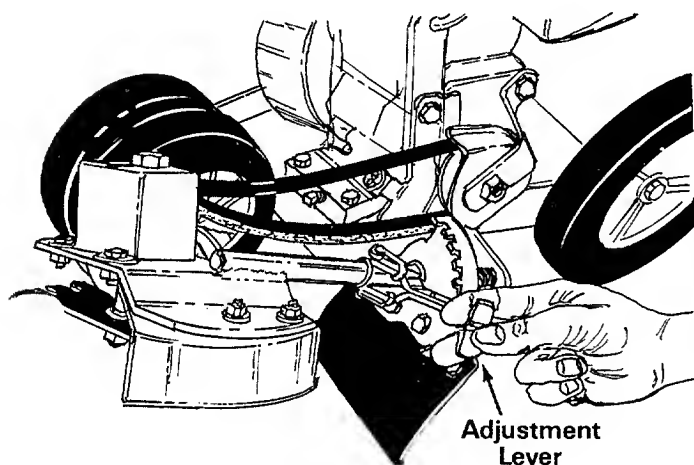
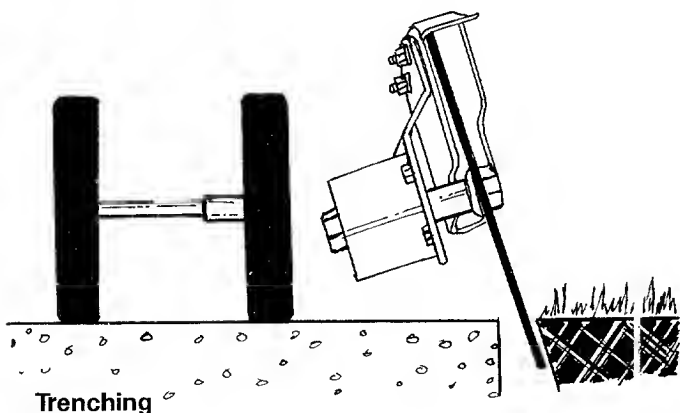

FIGURE 13
FIGURE 17
The cutting blade can be adjusted to eight positions from vertical to horizontal. To adjust, release the adjustment lever on the pivot bracket and rotate the spindle housing. Place adjustment lever in notch desired. See figure 13.
2. Set the adjustment lever (refer to figure 13) in the first notch at the top for trenching. See figure 17.